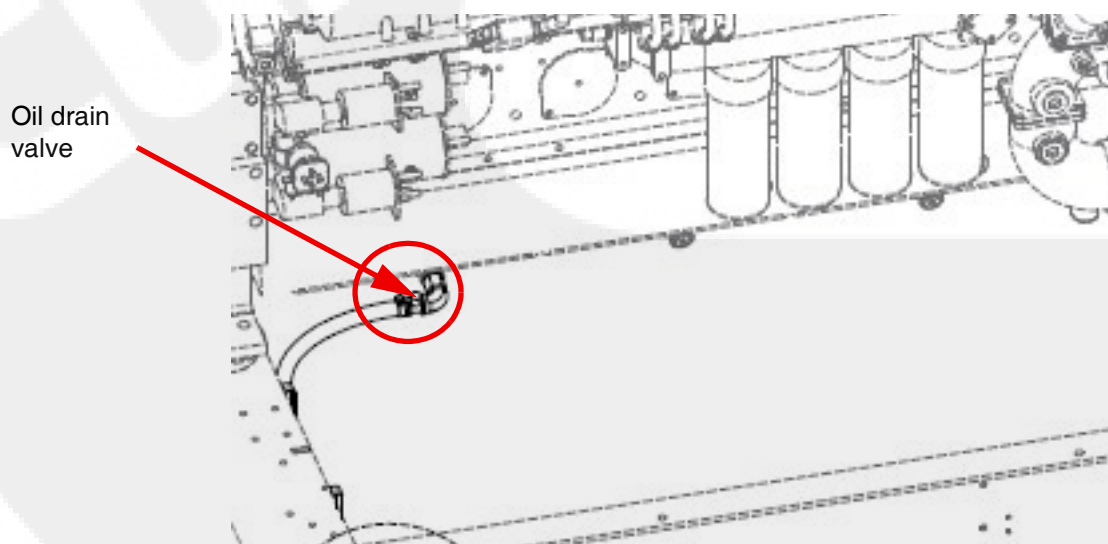

Figure 7-6 Engine oil drain valve (GenSet right side)
6. As shown in Figure 7-6, slowly open the oil drain valve and allow the appropriate amount of oil to drain into the container.